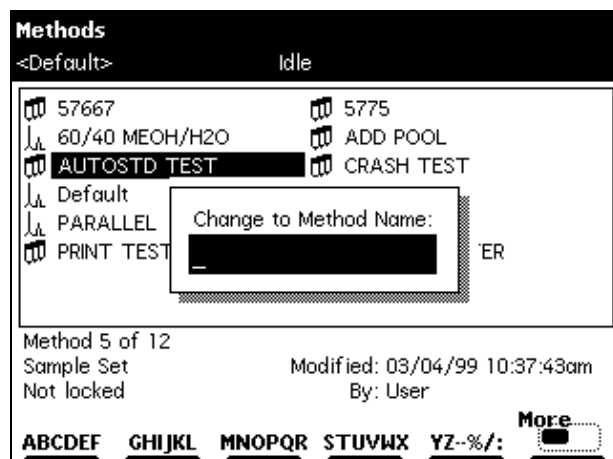

Figure 5-26 Change to Method Name Dialog Box
2. Press the **More** screen key until the Rename screen key is displayed, then press the **Rename** screen key. The Change to Method Name dialog box (Figure 5-26) appears.